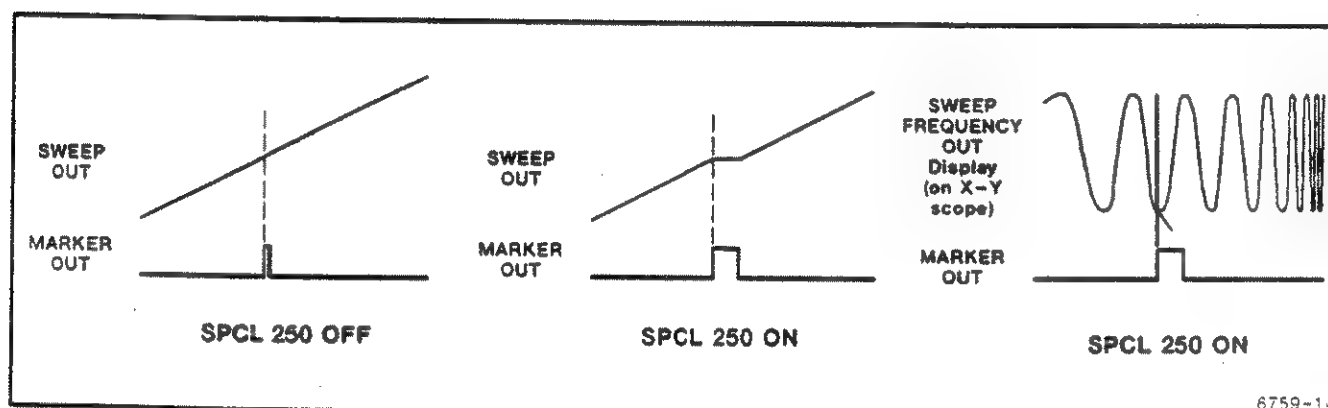

Fig. 2-6. SPCL 250 example.
- 250 Toggles the sweep marker function. With this function on, a horizontal line is inserted in the main output signal at the MARKER frequency and a pulse is output at the MARKER OUT connector; marker width is set by RATE. With SPCL 250 displayed, press either INCREMENT key to toggle the status. Power-on setting: off. Refer to Fig. 2-6.